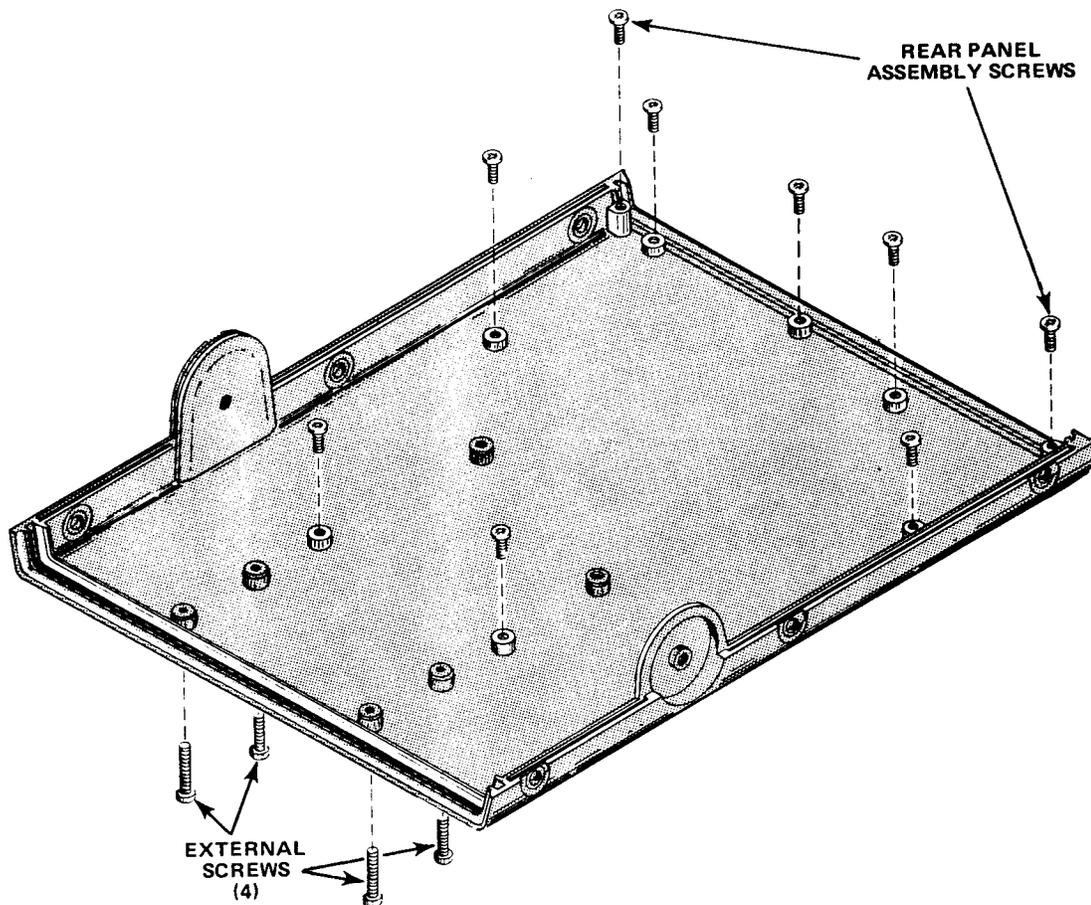
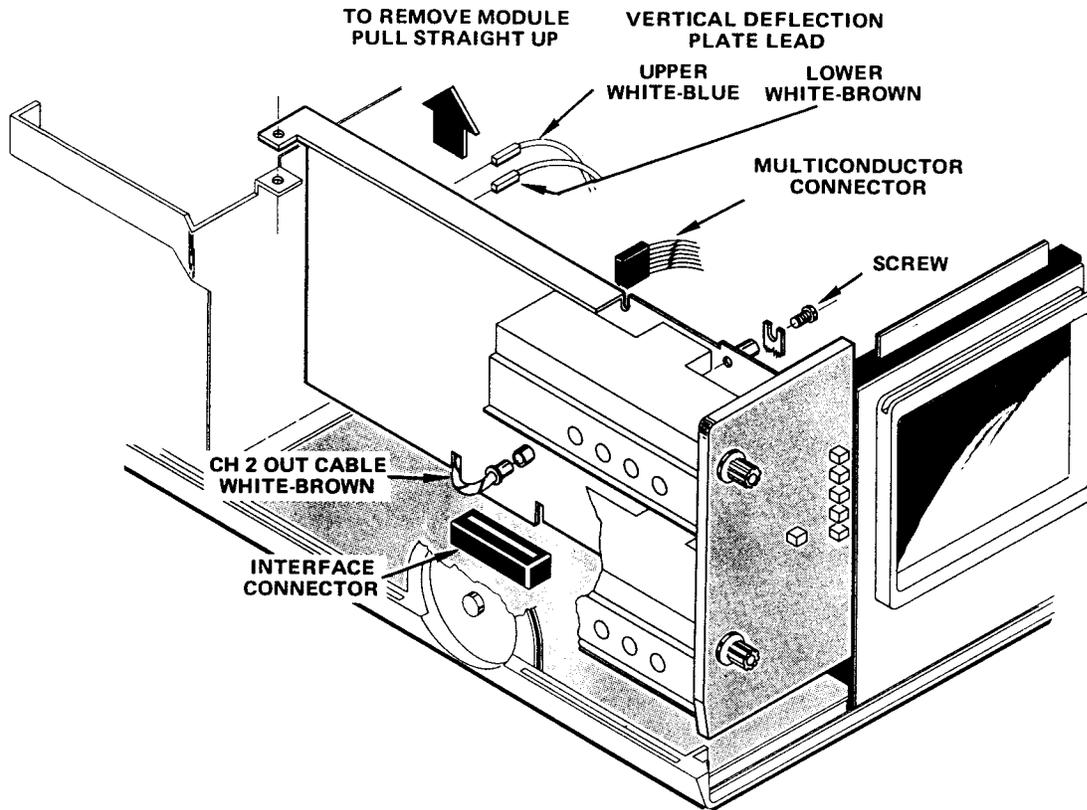
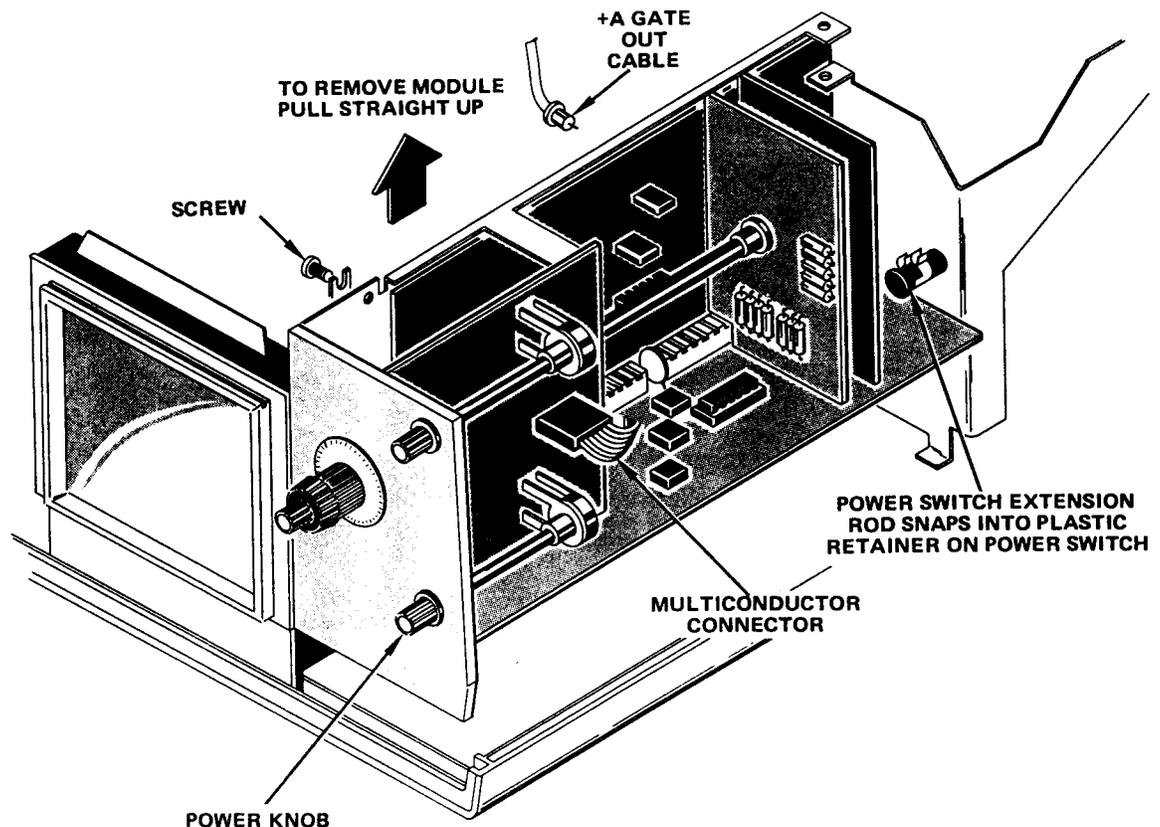

Figure 5-6. Cabinet bottom removal.
Figure 5-7. Vertical module removal.
Figure 5-8. Horizontal module removal.
d. Cabinet Bottom Removal and Replacement (Figure 5-6).
- (1) Remove the cabinet top.
- (2) Raise the front of the instrument and remove the four external screws from the cabinet bottom.
- (3) Remove the rear panel assembly.
- (4) Remove the remaining seven internal screws from the cabinet bottom.
(5) Lift the instrument off the cabinet bottom.
(6) Replace the bottom in the reverse order of removal. When installing the four external screws in front part of the cabinet bottom, the floating nuts inside the instrument along side the front part of the crt, may need to be aligned.
e. Vertical Module Removal (Figure 5-7).
- (1) Remove the remaining screw holding the module.
- (2) Unplug CH 2 OUT cable, vertical deflection plate leads, and multiconductor connector to the horizontal module.
- (3) Pull plug in module straight up and away from interface connector.
- (4) Reinstall the module in reverse order. Be sure CH 2 OUT cable is routed through cutout at bottom of module.
f. Horizontal Module Removal (Figure 5-8).